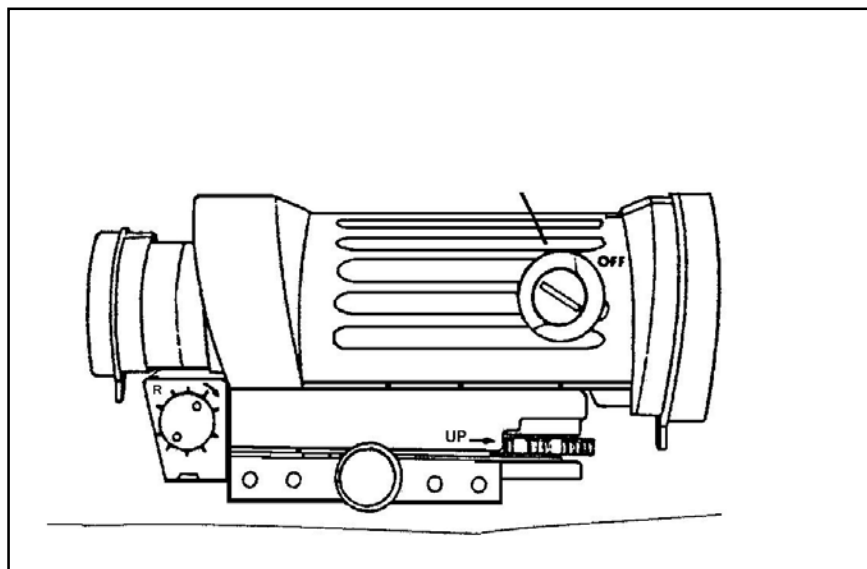

Figure G-52. Illuminated reticle adjustments.
(1) To make reticle illumination adjustments, turn the rotary switch (1) clockwise. The intensity of the illumination increases the further the switch is turned (Figure G-52).